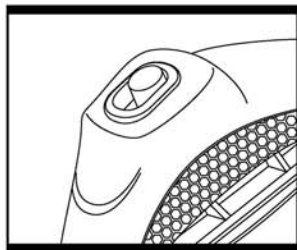

Fig. 1
2. SWITCHING ON AND OFF (Fig. 1)